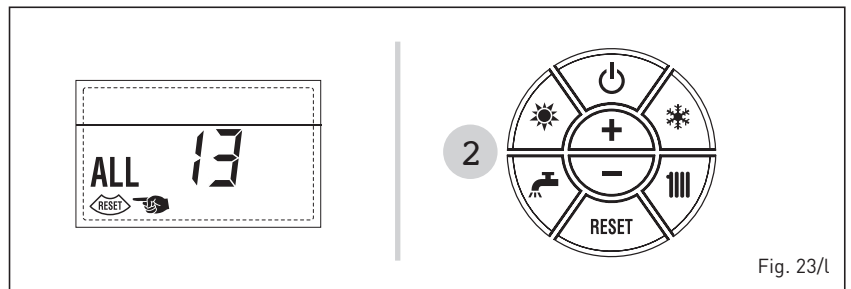

Fig. 23/l
– **EXHAUST FUMES TEMPERATURE SENSOR ERROR "ALL 14" (fig. 23/m)**